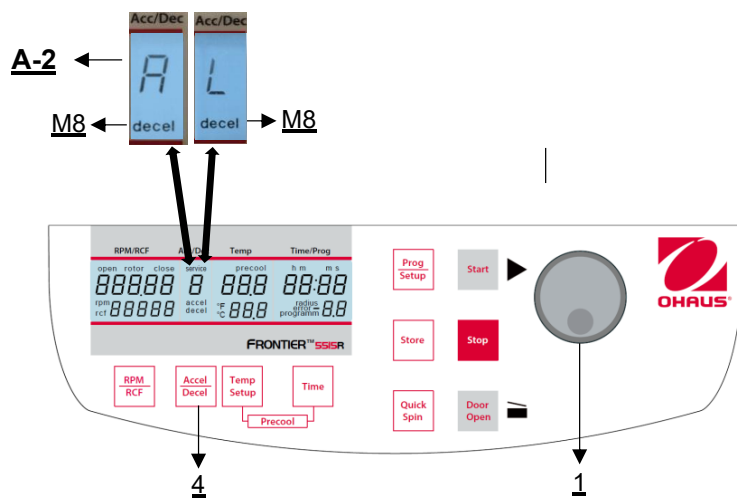

Figure 18
If the **"Accel/Decel"** (4) key is pressed three times, the word **"decel"** (M8) flashes in the **"Acc/Dec"** (A-2) display field. Now the desired braking curve can be preselected with the adjusting knob (1) (see Figure 18). The code letter "L" stands for a linear braking curve. This means that the rotor is braked evenly during the entire braking phase. The braking curve with the code letter "A" allows a smooth braking. Its braking rate (rpm/s) is dynamically adjusted, which means that sensitive samples are only slightly swirled during the braking phase. This leads to a better separation result.